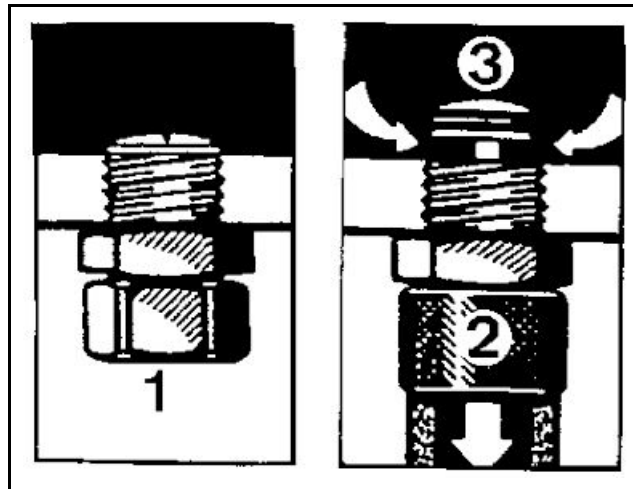

Fig. 277
After an extended period of downtime, drain any water from the hydraulic oil box. To do this, use the drain valve (1) (**Fig. 277**) on the bottom of the box.
- Remove the lock nut from the drain valve (1) (Fig. 277).
- Screw the drain hose (2) onto the drain valve.